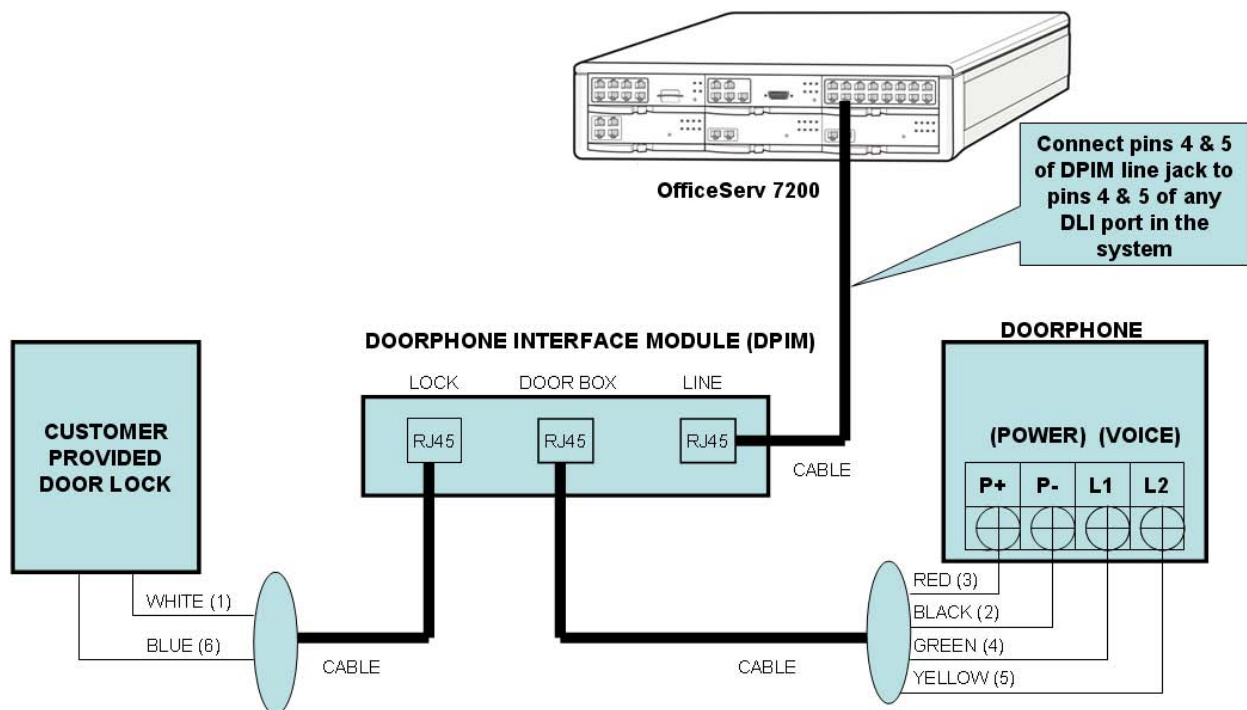

Figure 7.9 Connecting a Door Phone and a Door Lock
- 1) Connect the Door Phone Interface Module (DPIM) line jack to any DLI port in the OfficeServ 7200 system using twisted pair (24AWG/26AWG). Use MMC 211 to assign a directory number to the doorphone. See figure 7.9.
- 2) Connect the Door Phone to the DPIM-door box jack using 4 conductor twisted pair cable. See figure 7.9 for power and voice pair pin assignments.
- 3) If required connect a custom provided door lock to the lock contact pair on the DPIM using twisted pair wire (24/26 AWG) as indicated in figure 7.9.